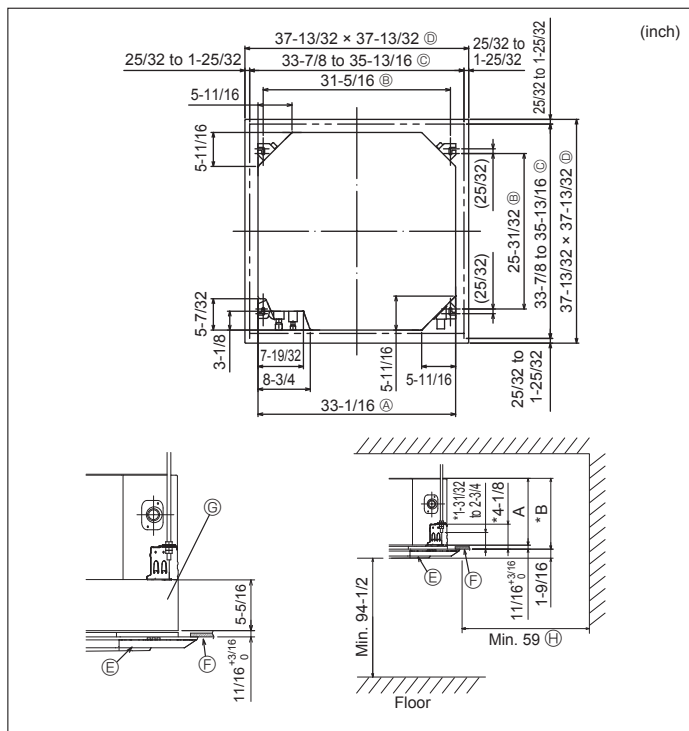

Fig. 2-2
2.2. Ceiling openings and suspension bolt installation locations (Fig. 2-2)
- * The dimensions of ceiling opening can be regulated within the range shown in Fig. 2-2; so center the main unit against the opening of ceiling, ensuring that the respective opposite sides on all sides of the clearance between them becomes identical.